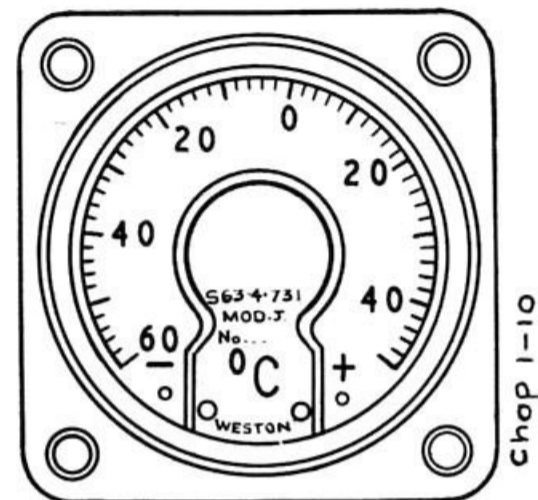

Fig. 1. Indicator, Type S63.4.731
1. This indicator (Ref. No. N.I.V.) (*fig.1*) is calibrated in degrees C from -60 to $+50$; the indicator is controlled by variation of temperature in a resistance bulb which obeys a platinum law.